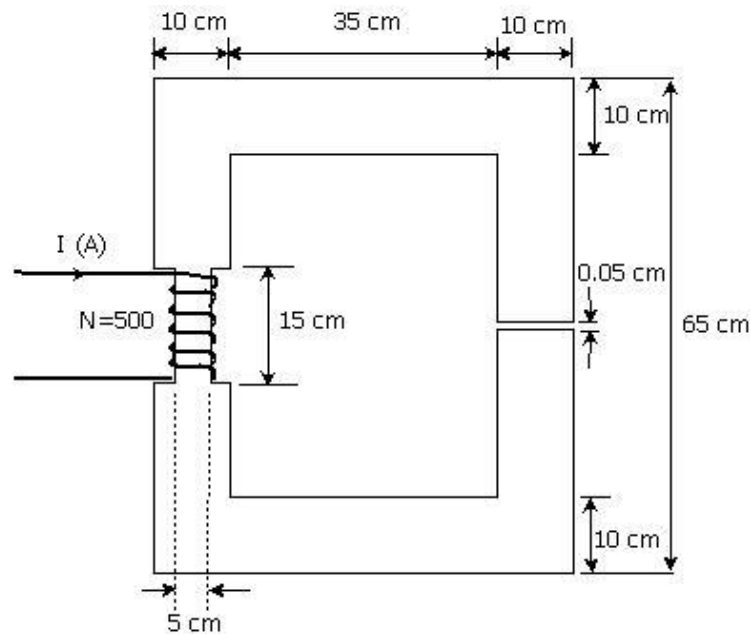

Figure 1: Ferromagnetic core
1. A ferromagnetic core is shown in Figure 1. The depth of the core is 10 cm. The other dimensions of the core are shown in the figure. The relative permeability of the core is 1000. Assume that fringing in the air gap increases the effective cross-sectional area of the air gap by 5 percent and the current in the coil is 1.0 A.
- (i) Draw the equivalent magnetic circuit of the ferromagnetic core as shown in Figure 1.